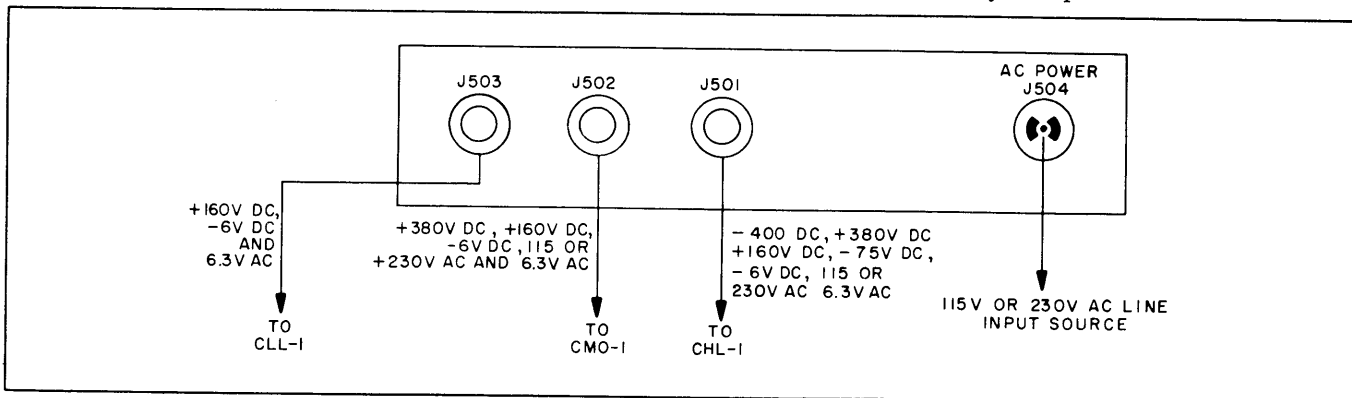

Figure 2-3. Interconnection Diagram
b. ELECTRICAL. As shown in figure 2-3, all power connections are made at the rear panel of the power supply unit. Operating voltages for the CLL-1 unit are provided at jack J501. For the CMO-1 and CHL-1 units, operating voltages are provided at jacks J502 and J503, respectively. A-c line power is connected to AC POWER jack J504.